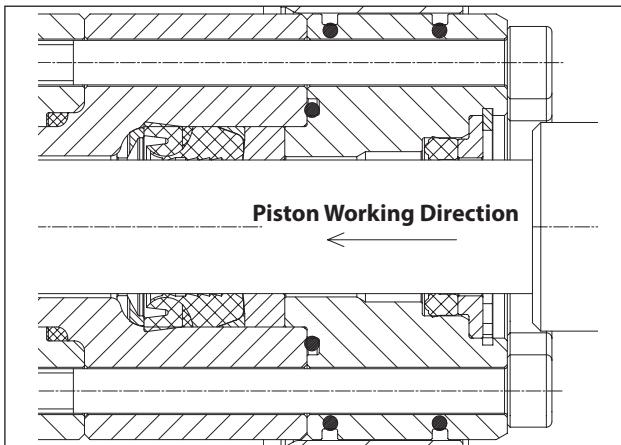

Fig. 127
- !** The L.P. seal must be inserted into the support with the sealing lip in the piston working direction as shown in Fig. 127 and Fig. 128, slightly lubricating the external diameter with silicone grease type OKS 1110.